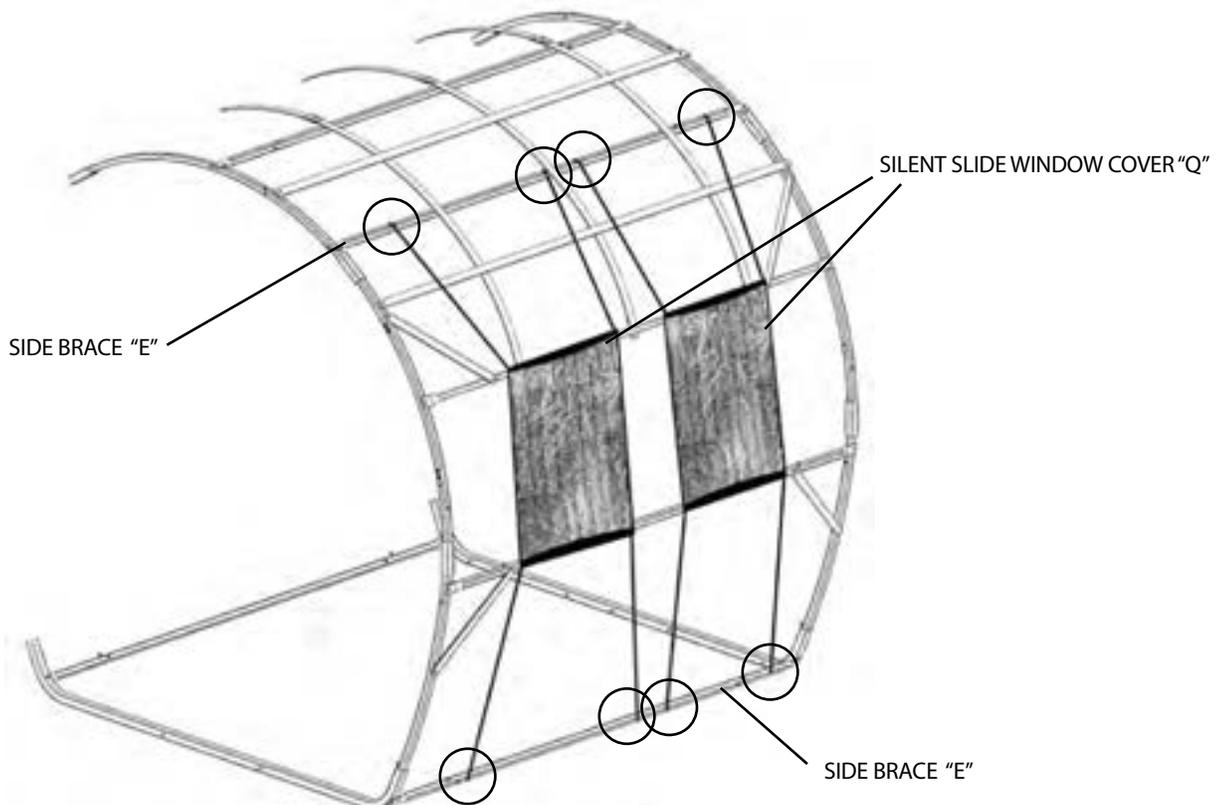

Figure 33.1
STEP 25: Locate the remaining (2) SILENT SLIDE WINDOW COVERS "Q" to be installed for the shooting window openings located on COVER BLANKET "P". Starting at the top, attach each clip to the SIDE BRACE "E", then repeat the process for the bottom clips, attaching to the bottom SIDE BRACE "E" located on the base of the frame, as illustrated in Figure 33.1. Perform this step for the remaining (2) SILENT SLIDE WINDOW COVERS "Q" to be installed for the window openings on the COVER BLANKET "P".